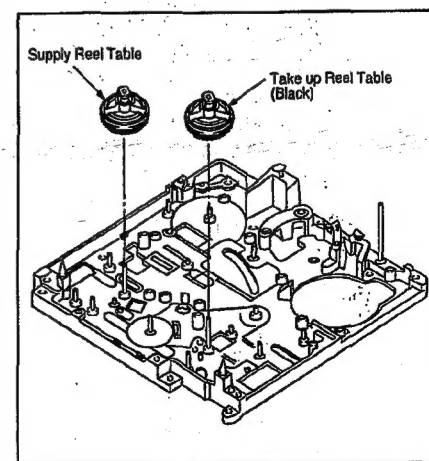

Fig. M15
| 9. Reel Tables & Brakes | Fig. M15 | Unscrew 3 screws (K) and remove Cover Plate.